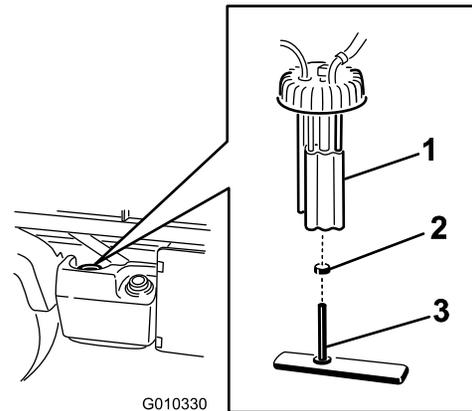

Figure 47
2. Unplug the wire-harness connectors from the fuel pump (Figure 47).
3. Loosen the hose clamp and disconnect the fuel line from the fuel-pump cap (Figure 47).
4. Remove the fuel-pump cap from the top of the fuel tank (Figure 47).
5. Remove the fuel-pump assembly and the fuel filter from the tank (Figure 47).
7. Remove the hose from the fitting (Figure 47).